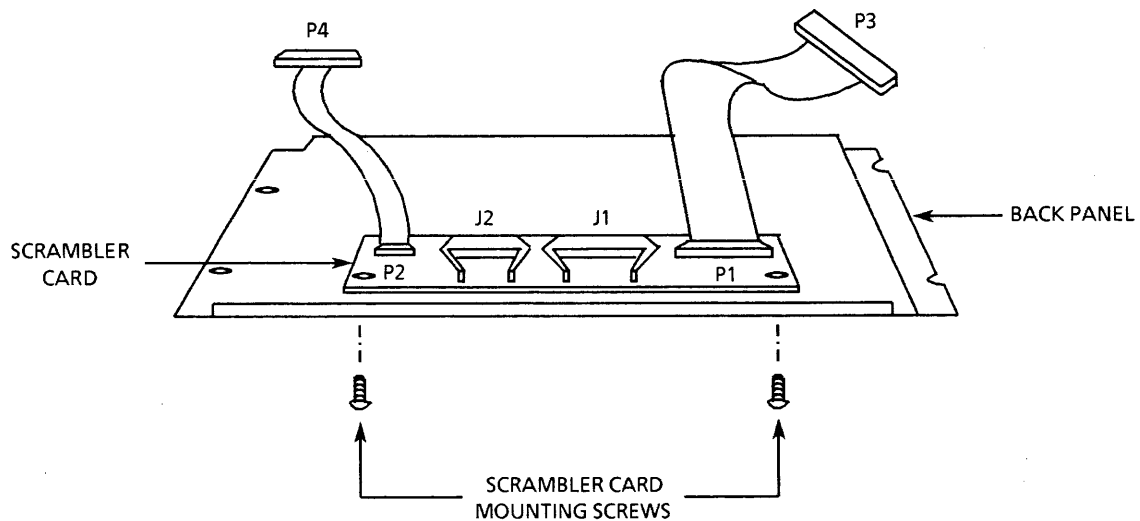

Figure 4-2. Location of Scrambler Card
4. On the inside of the back panel, place the scrambler over the screws. The solder side of the scrambler should be toward the back panel and the component side facing you (with the name "INTEL" in the upper left corner) (Figure 4-2).